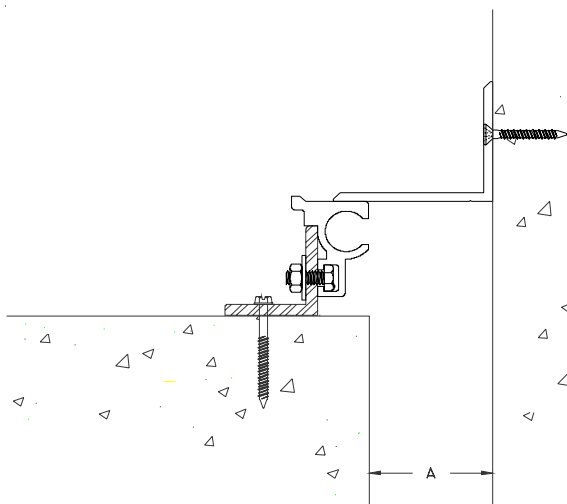

Figure 7
STEP 12. Select the wall-mounted center plate and the anchors provided by the factory. Place the wall-mounted center plate into its installed position over the joint, see Figure 7. Ensure that the center plate is properly aligned, at the proper elevation and level. Using the selected anchors, attach the center plate to the wall.